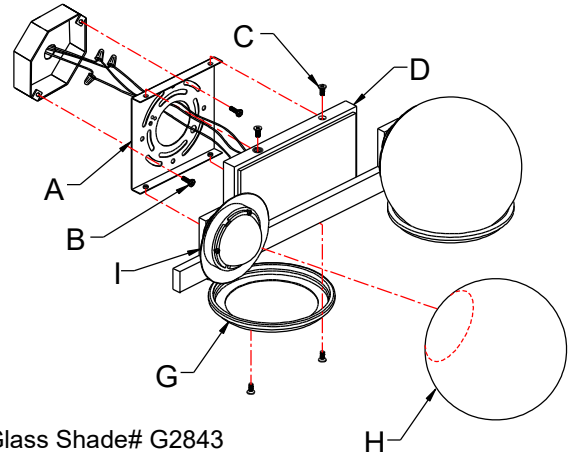

Fig. 2
CONNECTING THE WIRES (Fig. 2)
5. Connect the electrical wires as shown in Fig. 2, making sure that all wire connectors are secured. If your junction box has a ground wire (green or bare copper), connect the fixture's ground wire to it. Otherwise, connect the fixture's ground wire directly to the mounting plate (A) using the green screw provided. After the wires are connected, tuck them carefully inside the junction box.